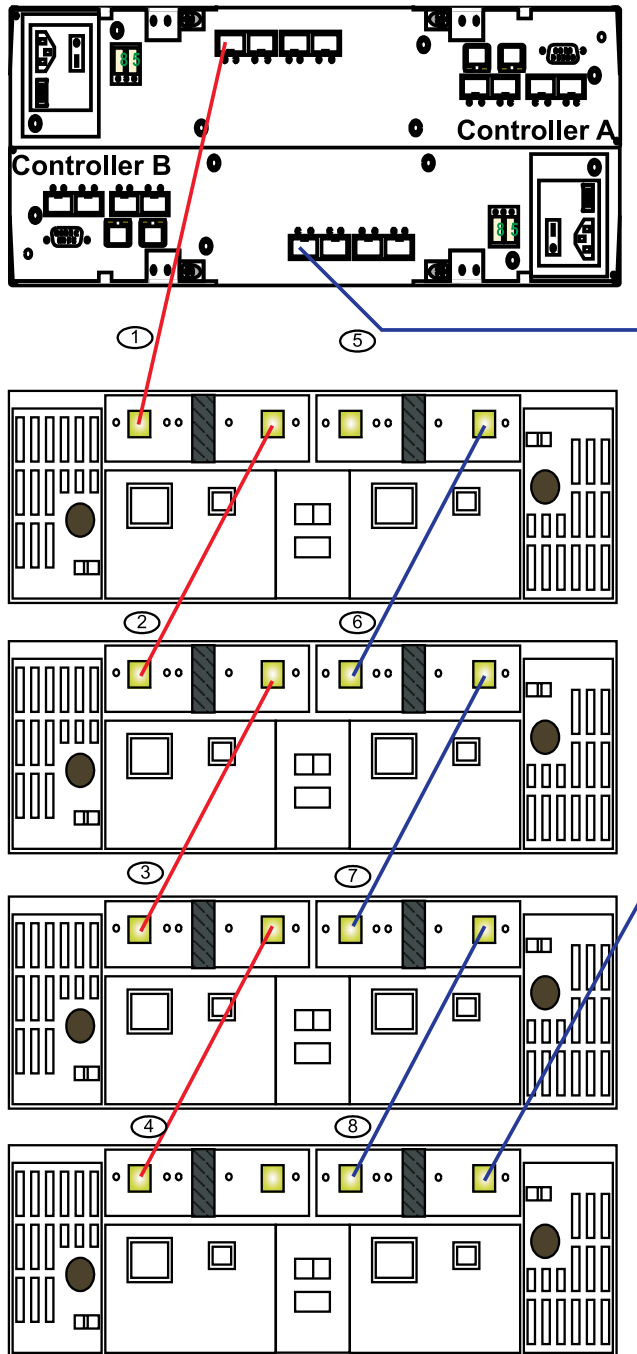

Figure 44. Connecting EXP710 or EXP100 enclosures to DS4800
- a. Start with the first storage expansion enclosure from the group of drive expansion enclosures that will be cabled together behind a drive port of a drive channel. Connect the In port on the left ESM board to the Out port on the left ESM board of the second (next) enclosure. (See callout 2 in Figure 44 on page 64.)
- b. On the first storage expansion enclosure from the group of drive expansion enclosures, connect the In port on the right ESM board to the Out port on the right ESM board of the second (next) enclosure. (See callout 6 in Figure 44 on page 64.)
- c. If you are cabling more storage expansion enclosures to this group, repeat steps 3a and 3b for all enclosures except the final enclosure in the loop, starting with the second enclosure. (See callouts 3 and 4 for the left ESM connections and callouts 7 and 8 for the right ESM connections in Figure 44 on page 64.)
- d. Connect drive port 4 (drive channel 1) of controller A to the In port on the left ESM board of the first storage expansion enclosure in the group. (See callout 1 in Figure 44.)
- e. Connect drive port 1 (drive channel 3) of controller B to the Out port on the right ESM board of the last storage expansion enclosure in the group. (See callout 5 in Figure 44.)